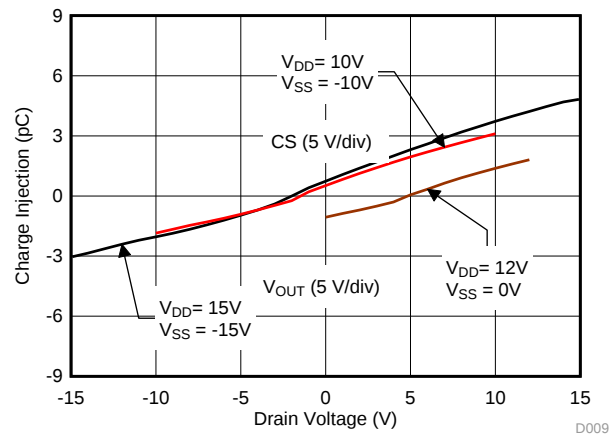

FIG 32. Drain-to-Source Charge Injection vs Drain Voltage
The drain (D)-to-source (Sx) charge injection becomes important when the device is used as a demultiplexer (demux), where the drain (D) becomes the input and the source (Sx) becomes the output. FIG 32 shows the drain-to-source charge injection across the full signal range.